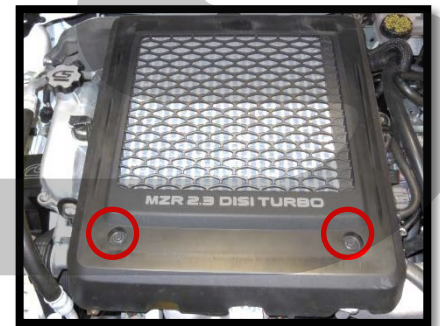

Figure 1b
- b) Remove the two 10mm bolts fastening intercooler shroud to the intercooler. Push the shroud towards the firewall to unhook it and remove it from the vehicle (red circles in Figure 1b).